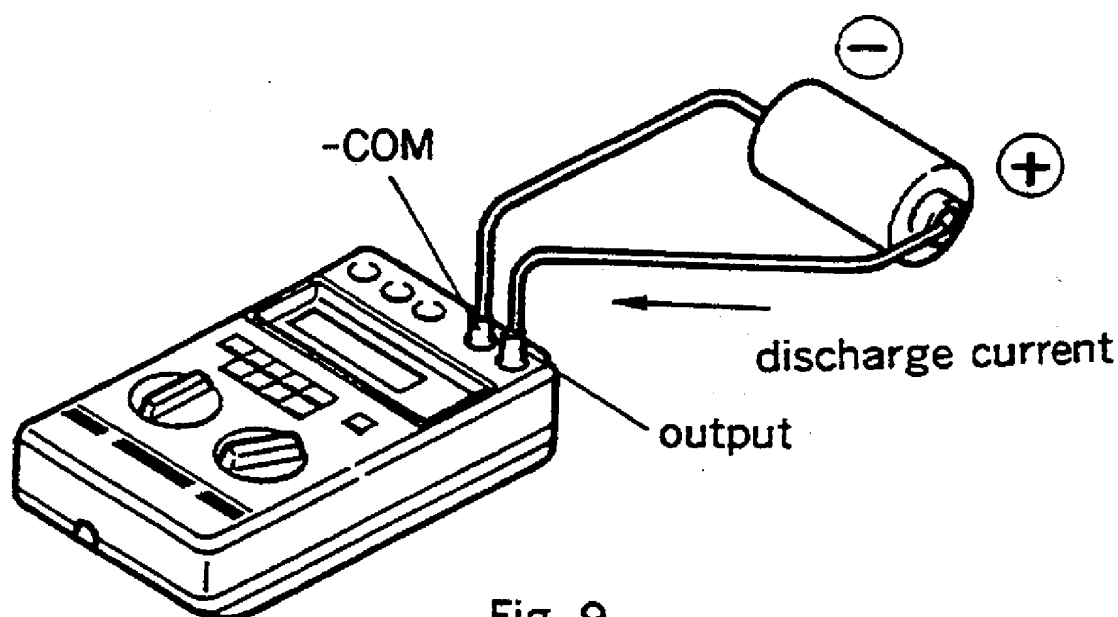

Fig. 9
- (1) Set the function switch to CC, and connect the battery as shown in Fig. 9.